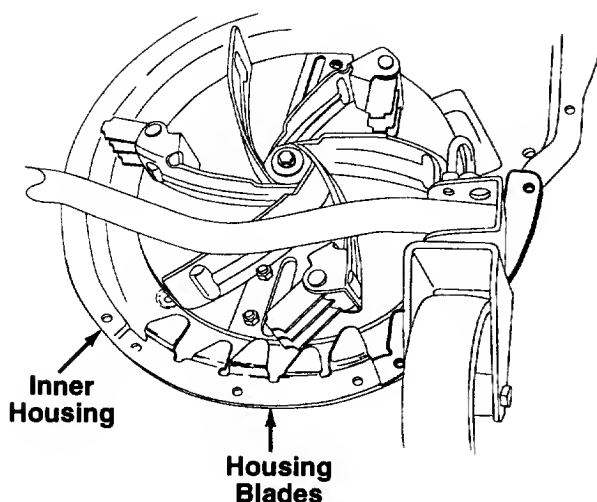

FIGURE 19.
24. Place the housing blades against the inner housing. The blades must be place as shown in figure 19.